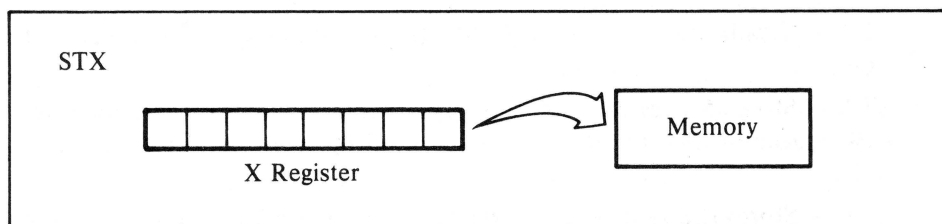

Figure 8-3. Store X register in memory
- **STX** — Stores the value in the X register into a specified memory location. This works like STA, but operates using the X register (see Figure 8-3).